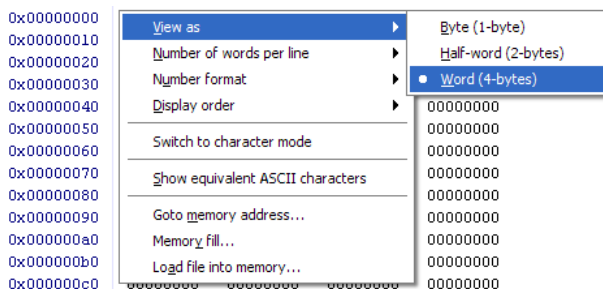

Figure 35. **View as** menu used to select the memory element size in the **Memory** window.
- Memory element size: the display can format the memory contents as bytes, half-words (2-bytes), or words (4-bytes). This can be configured from the context menu accessible by right-clicking on the **Memory** window, as shown in Figure 35.